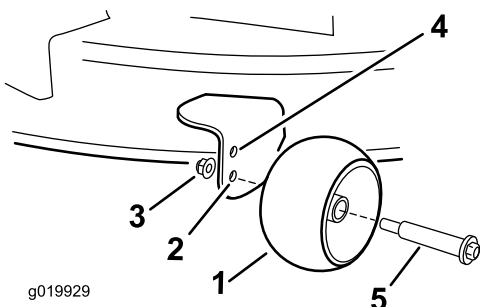

Figure 18
- Upper hole—use this position with the mower deck in the 63 mm (2-1/2 inch) and below the height-of-cut positions (Figure 18).
- Lower hole—use this position with the mower deck in the 76 mm (3 inch) and above the height-of-cut positions (Figure 18).